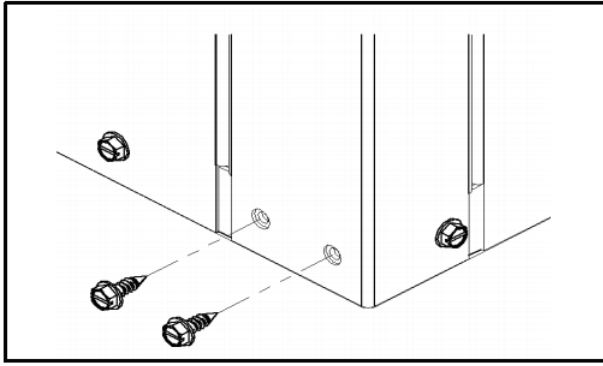

Fig. 7 — Removing Factory Screws
1. Remove and discard factory-provided screws from location where hanging brackets will be installed. (See Fig. 7.)